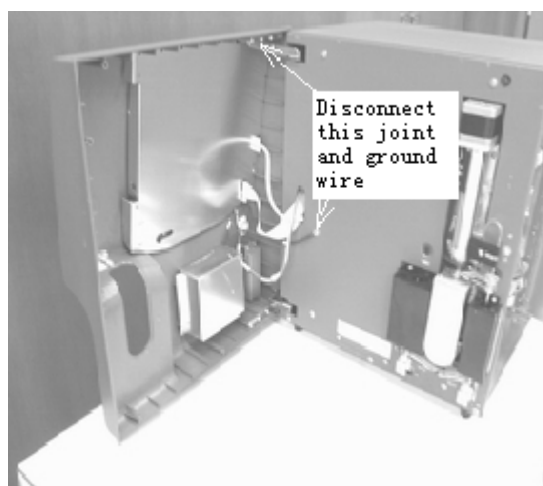

Figure 5-72
3. Open the unit's front pane, and screw off the joint and ground wire (Figure 5-72)